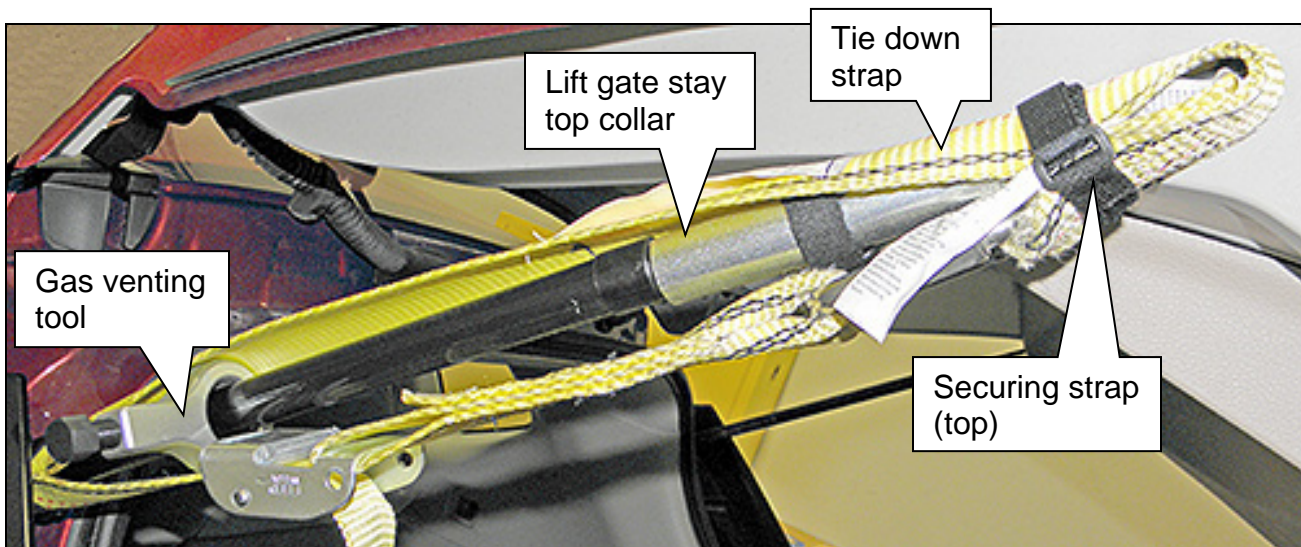

Figure 5
6. Position the gas venting tool 140 mm (approximately 6 inches) from the bottom of the lift gate stay (Figure 5) and hold in place by finger tightening.
7. Hold the tie down strap in place at the top and bottom with two securing straps (tool # J-52233) as shown in Figure 5.